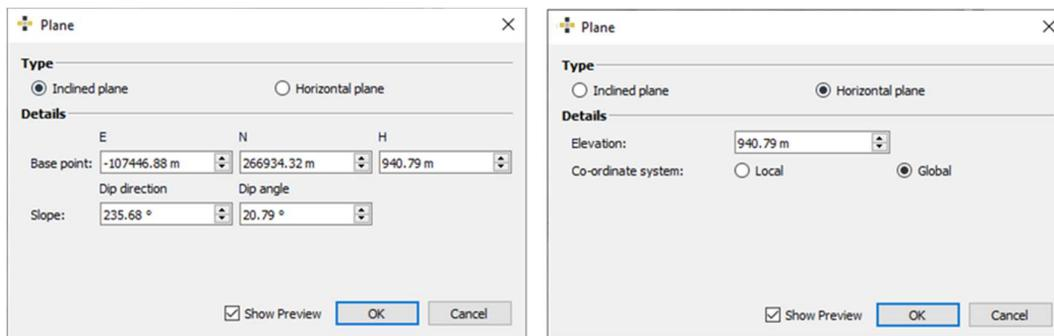

Figure 17: Positioning of the Reference Plane
2. Enter values for positioning the *Reference Plane* in the appearing dialog (see Figure 17):